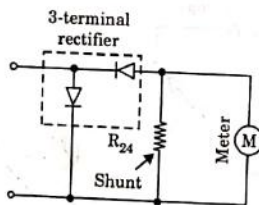

Fig. 1.19.3.
- In Fig. 1.19.3, it is not possible to use a shunt (as in DC moving-coil instruments), as the proportion of the total current passing through the movement would vary widely with the total current, owing to the change of rectifier resistance with current. The resulting scale shape would depart so far from uniformity as to be practically useless.